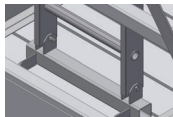

fig. 1.57
- 3- Insert the bottom of the ladder between the tabs and secure in place by inserting the bolt assemblies through the tabs and through the holes at the bottom of the ladder (fig. 1.56 and fig. 1.57).